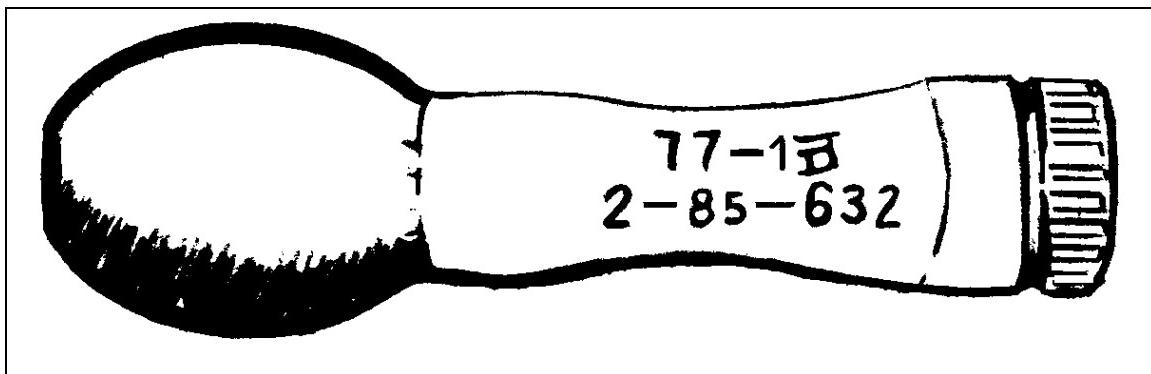

Figure D-14. Type 77-1 fragmentation stick.
- Type: Fragmentation. (Figure D-14)